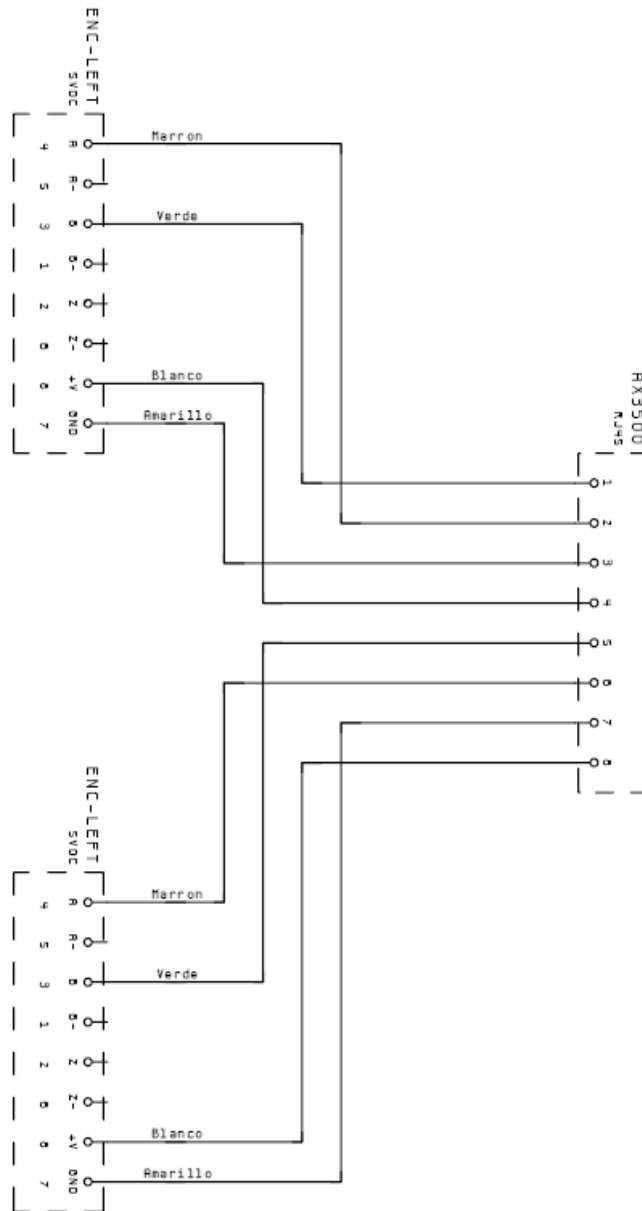

Figure 30: Driver - Encoder Drawing
- Figure 30 *Driver – Encoder Drawing*